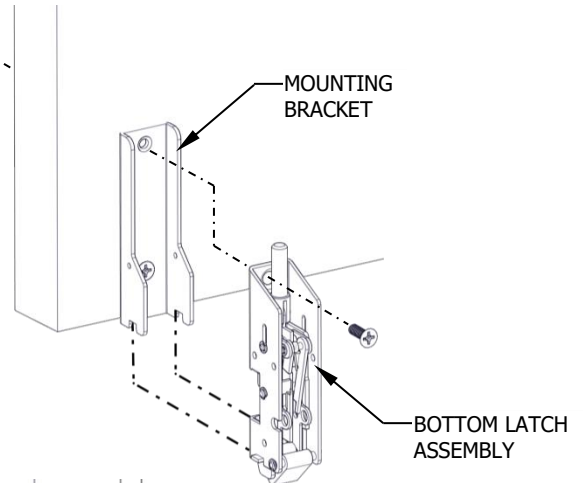

FIGURE 1
STEP 1: Install bottom latch assembly to bottom latch bracket using provided screws and bottom two slots in bracket (see Figure 1).
STEP 1: Thread top rod half-way onto top latch threaded connector (see Figure 1).
STEP 2: Use the provided machine screw to attach rod connector onto actuating block, but do not attach top rod to rod connector yet. Align the edge of rod connector next to top rod and mark a cutting line on top rod, if necessary (see step 12.1 Cut Rod to Length). Be sure the top latch is not actuated and exit device push bar is not depressed (see Figure 1).